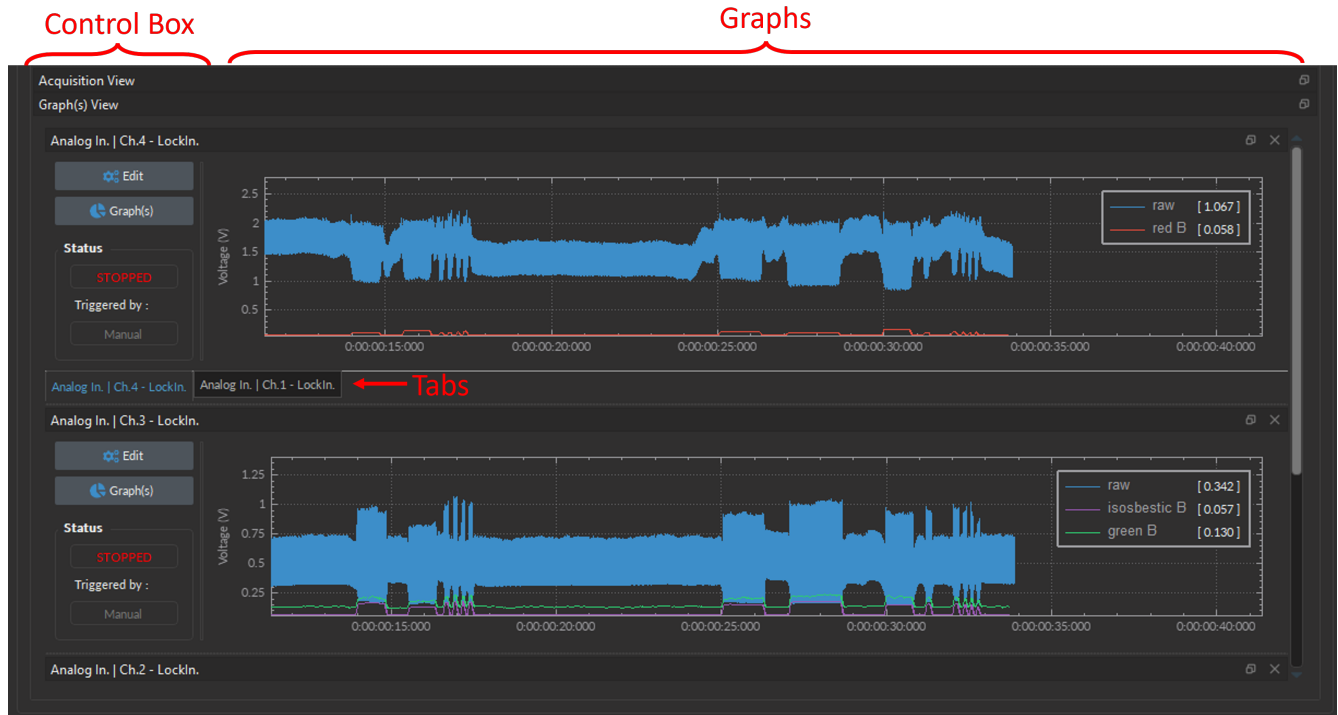
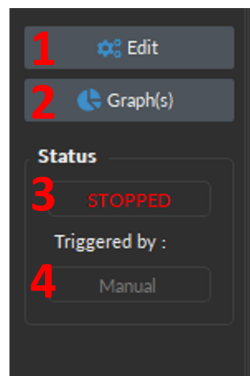

Figure 5.44: Acquisition View Interface
Figure 5.45: Control Box
The **Acquisition View** displays all the information concerning active channels: **Control box** (Fig.5.44) and the **Graphs** (Fig.5.45).
Each channel **Control box** shows the following basic elements (Fig.5.45), with additional elements available for specific channel types:
1. The **Channel Name** (Fig. 5.45, 1) is located on the upper left of the **Control box**, identifying the type of channel and its number, corresponding to that on the console. This name can be modified in the **Graph options** window (Fig. 9.36).
- The **Edit** button (Fig. 5.45, 2) opens the **Channel Configuration** window, where channel parameters can be modified (See section 5.4.1).
- The **Status** bar (Fig. 5.45, 4) displays acquisition status. **STOPPED** is displayed when the acquisition is inactive, and **STARTED** when acquisition is active.
- 5. The **Triggered by:** (Fig. 5.45, 5) text-box displays the source of the trigger for that channel, which can either be Manual (i.e. selecting the **Record/Live** button) or a specific channel that provides external trigger signal.
- The **Channel tabs** (Fig. 5.44, Tabs) appear in certain input modes (such as **Interleaved** and **Lock-in**) where the input automatically sets the output values on separate channels. It is possible to create a **Channel tab** by undocking one channel and moving it above another until it turns blue, then releasing it.